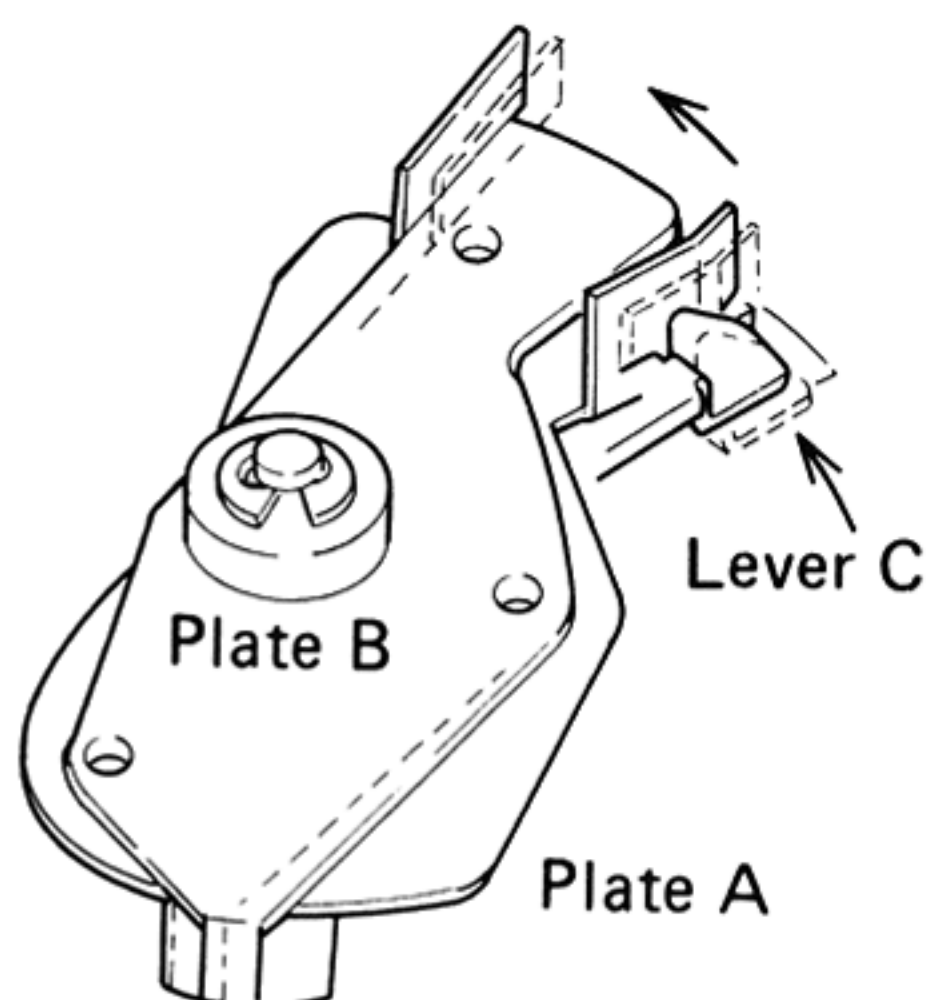

Fig. 3
2. Lever C pushes plate A by an amount directly proportional to the amount of movement of the tonearm (Fig. 3).
1. Let us assume that the motor is at standstill, in the position shown in Fig. 3.